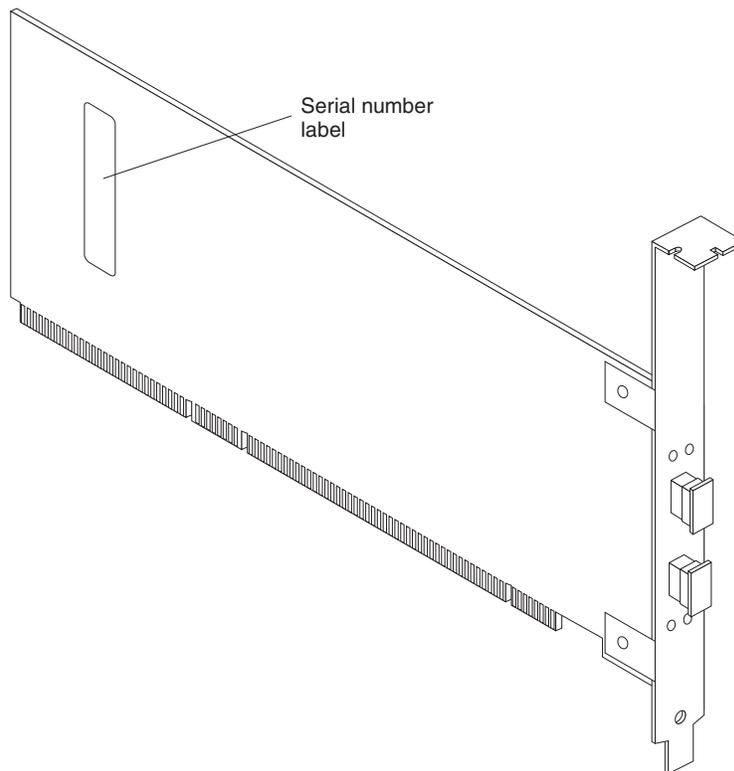

Figure 2. FASTT FC2-133 serial number label
- Write down the serial number of the FASTT FC2-133. Each adapter has a unique serial number. If the nonvolatile random access memory (NVRAM) (also referred to as NOVRAM) is damaged, the system prompts you for the FASTT FC2-133 serial number. Figure 2 shows the serial number label location.